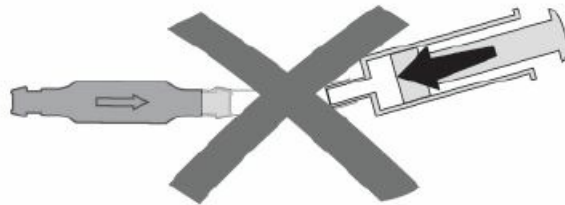

Fig. 16: Avoidance of pressurisation
- Pressurisation by the single-use syringe should be avoided both at the proximal and the distal end (fig. 16).